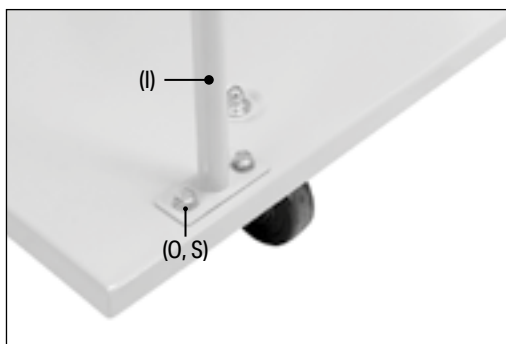

Fig. 6
6. Attach the lower supports to the base plate (Fig. 6):
- a. With the vertical bracket curving inwards, pass two M8 x 16mm bolts (O) each through a washer (Q) and through the perpendicular bracket of a lower support rod (I).